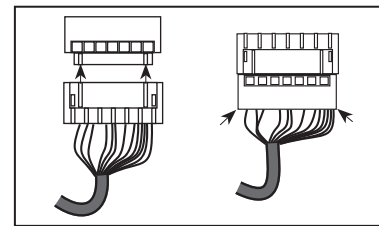

Figure 6B
6. Attach cable assembly to the inside escutcheon PC board by lining up notches on top of cable connector to slots on PCB connector (Fig. 6B).